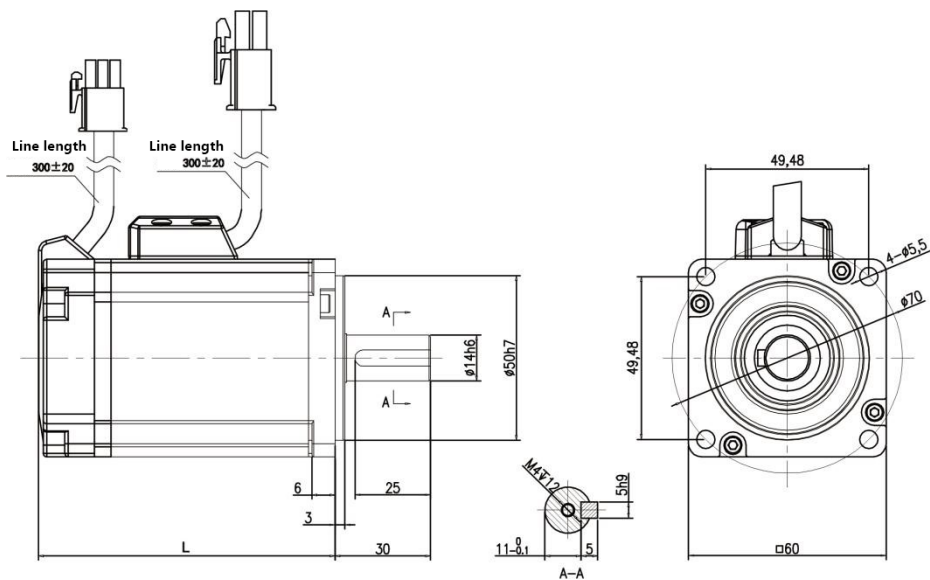

Figure 3.2 60 motor and Table 3-1
- Installation dimensions of 60-frame motor (see Figure 3.2 and Table 3-1)